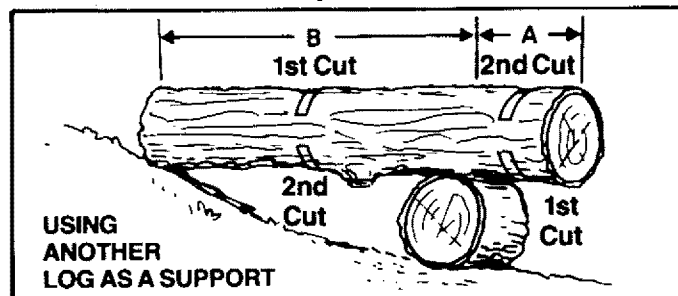

Figure 23
If saw becomes pinched or hung in a log, don't try to force it out. You can lose control of the saw resulting in injury and/or damage to the saw. Stop the saw, drive a wedge of plastic or wood into the cut until the saw can be removed easily. Figure 23. Restart the saw and carefully reenter the cut. To avoid kickback and chain damage, do not use a metal wedge. Do not attempt to restart your saw when it is pinched or hung in a log.
4. BUCKING — USING ANOTHER LOG AS A SUPPORT (Figure 23):